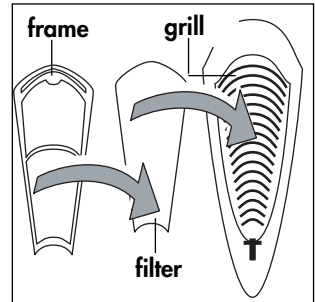

Fig. 16
- 1) Position the filter with the darker side facing the plastic grill and then reposition the frame. (Fig. 16).